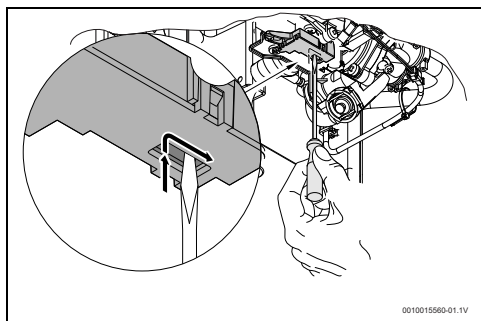

Fig. 30 Rearme do micro-interruptor
- Posicionar o micro-interruptor conforme Fig 30.